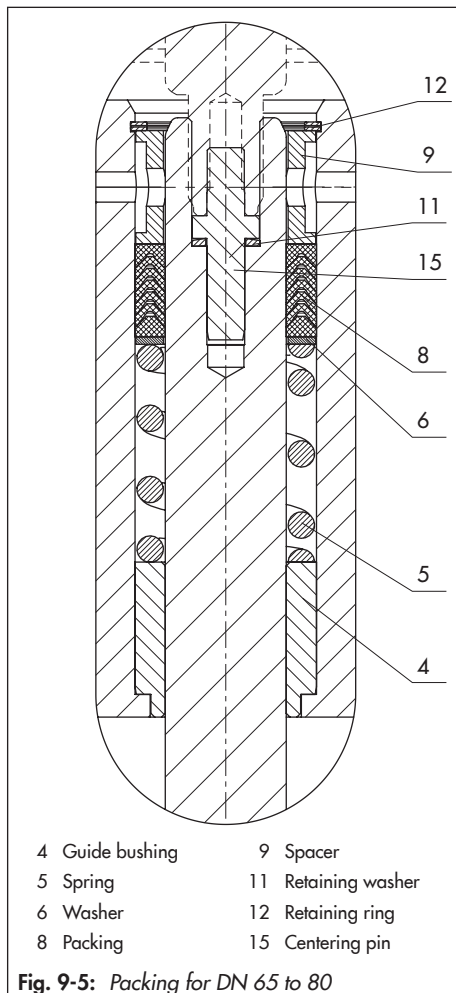

Fig. 9-5: Packing for DN 65 to 80
1. Undo the screws (10) on the valve bonnet (7).
2. Lift the actuator, flange (14), valve bonnet (7) and plug with plug stem (3) off the body (1).
4. Unscrew the valve bonnet (7) from the actuator base.
5. Unscrew the plug stem (3) from the actuator stem.
6. Pull the plug with plug stem (3) out of the valve bonnet (7).
9. Apply a suitable lubricant to all the packing parts and to the plug stem (3).
10. Make sure that the guide bushing (4) and spacer (9) are seated correctly in the valve bonnet (7).
11. Insert the packing parts into the packing chamber. Make sure to observe the proper order (see Fig. 9-3 or Fig. 9-5).
12. Place the retaining ring (12) on the packing parts.
13. Use a suitable tool to press the packing together until the retaining ring (12) is seated in the groove of the valve bonnet (7).
11. Apply a suitable lubricant to all the packing parts and to the new plug stem (3). SAMSON recommends replacing the packing as well (see Chapter 9.4.2).
12. Make sure that the guide bushing (4) and spacer (9) are seated correctly in the valve bonnet (7).
13. Insert the packing parts into the packing chamber. Make sure to observe the proper order (see Fig. 9-3 or Fig. 9-5).
14. Place the retaining ring (12) on the packing parts.
15. Use a suitable tool to press the packing together until the retaining ring (12) is seated in the groove of the valve bonnet (7).